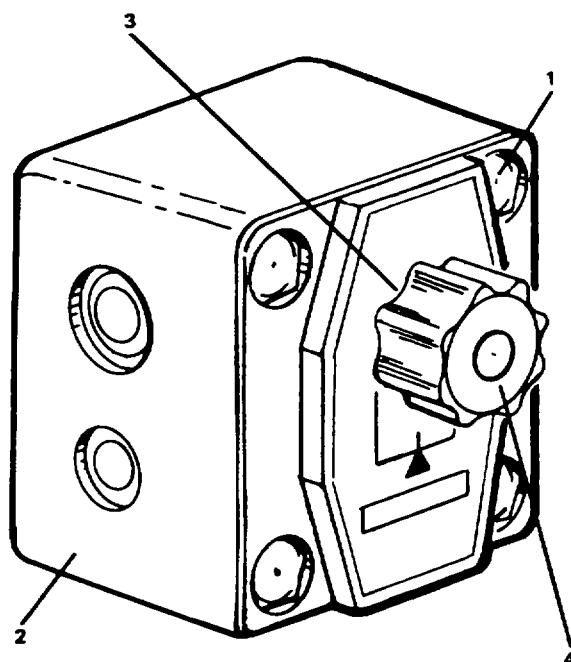

Figure 2-94. Replace Constant Flow Regulator Valve (Typical).
- b. Remove Allen bolts (1, Figure 2-94 holding valve (3) to mounting foundation (2).
- c. Remove valve (3).